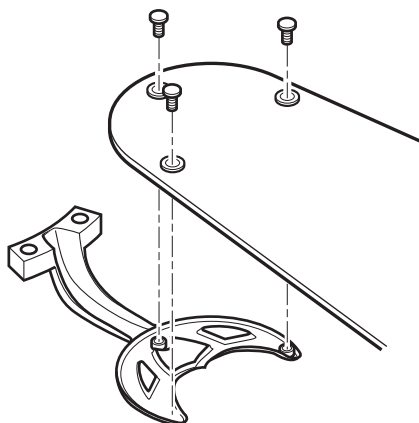
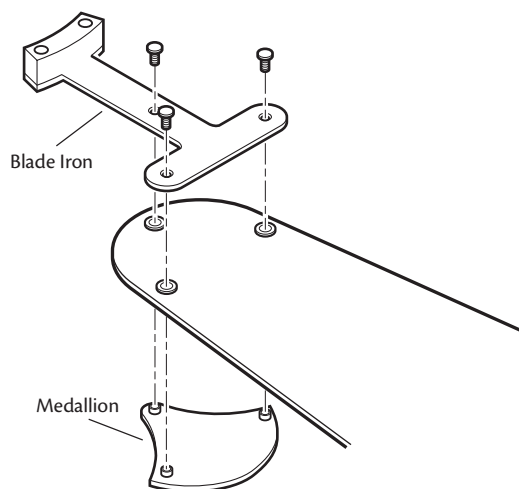

Figure 19 - Attaching the blade to the blade iron
Figure 20 - Attaching the blade to the blade iron and medallion
2. Attach each blade to blade iron using three blade assembly screws as shown in Figure 19. Some fans feature a decorative medallion as well as a blade iron. Insert the assembly screws into the blade iron, through the blade and into the medallion, with the blade sandwiched between the blade iron and medallion as shown in Figure 20.